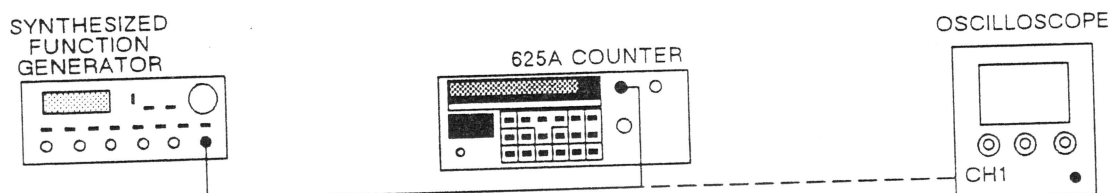

Figure 8-1. Band 1 Range and Sensitivity Test Setup (10 Hz to 10 MHz).
1. Connect equipment as shown in Figure 8-1.